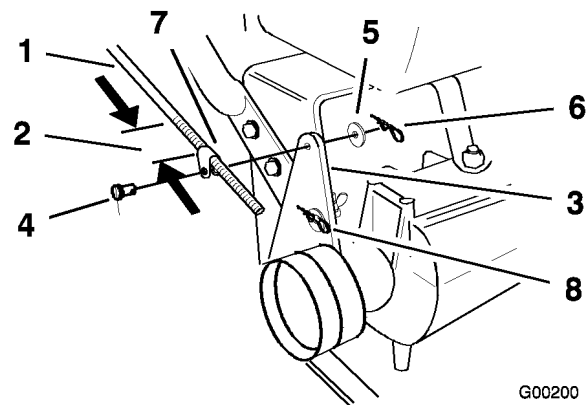

Figure 12
2. Make sure the rod fittings are equal distance onto each control rod. The rod fittings should be approximately 3-1/2 inch (89 mm) from the start of the threads for the handles lowest position (Figure 12).
3. Slide clevis pins through rod fittings and mounting holes in idler brackets (from outside) (Figure 12). Secure with washers and hairpin coppers (Figure 12).